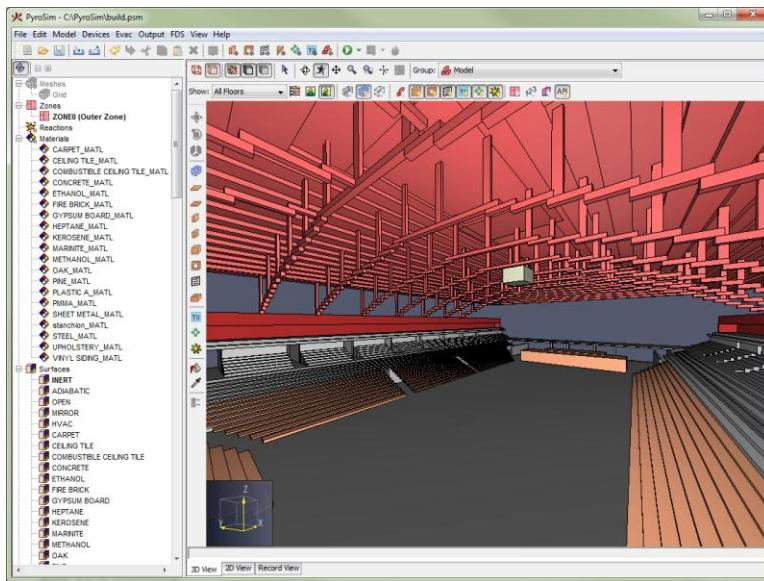

Figure 2.4. Interior view of model looking at roof and bleachers
- **Roam Tool (↗):** This tool allows the user to move into the model rather than viewing it only from the outside as shown in Figure 2.4. This tool can take some experimentation, but once mastered, it can provide unique views of the model.